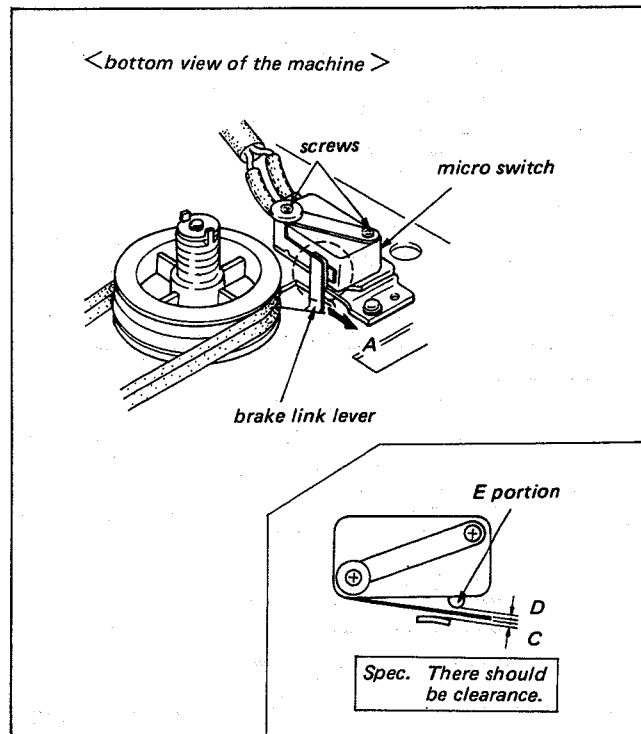

Fig. 4-31. AC motor SW position adj.
3. Push the Brake Link Lever slowly in the direction by an arrow A so that the AC Motor Sw is turned ON, and then reversely move it to its original position. Check to see that there are clearances in C and D of Fig. 4-31. (C is the clearance between the Brake Link Lever and the Actuator, D is the clearance between the Actuator and section E of the microswitch.) If not, re-adjust the step 2.